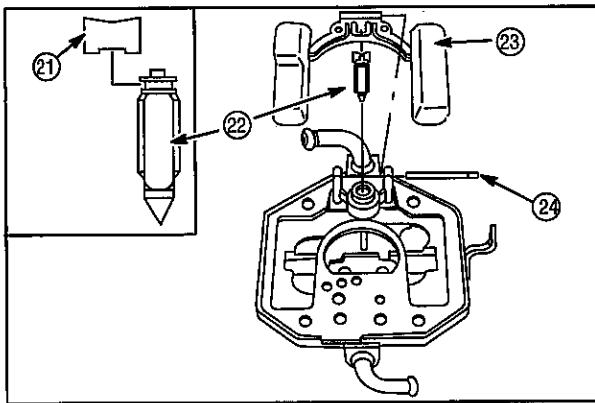

Fig. 111
18. Assemble inlet needle retainer (21) to inlet needle (22). Assemble to float (23), **Fig. 111**.
19. Install float (23) and needle to upper carburetor body. Insert hinge pin (24).